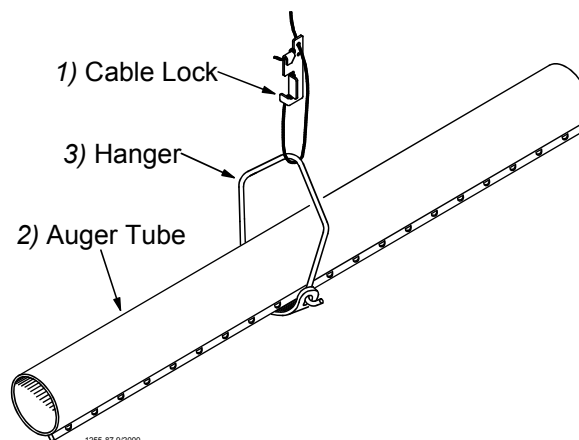

Figure 33. Hanger Installation
5. Install the Hangers on the feed line tube at the 8' [2.4 m] spacings determined by the suspension drop lines. **Figures 33 and 34** show the proper installation of the Hanger Assembly. Make sure the outlet drop hole is downward when the Hangers are installed, otherwise feed will not be allowed to drop into the feeder pan.